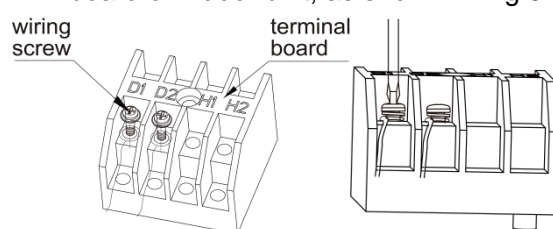

Fig 5.3.1
- (1) Open the cover of electric box of indoor unit.
- (2) Lead the communication line across the rubber ring.
- (3) Connect the communication line to terminal D1 and D2 on the 4-digit wiring board of indoor unit, as shown in Fig.5.3.1.